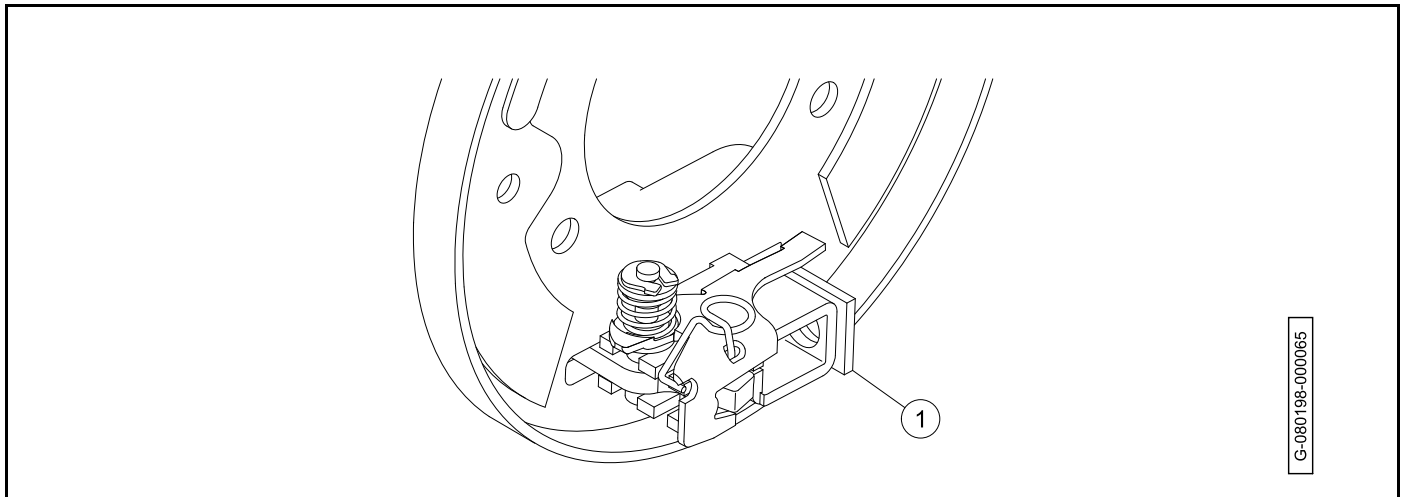

Figure 6-7
2. Remove the dust cover (2) from backing plate and wipe with a clean damp cloth.
- Lubricate the slide (1) with dry moly lubricant (**Figure 6-7**).